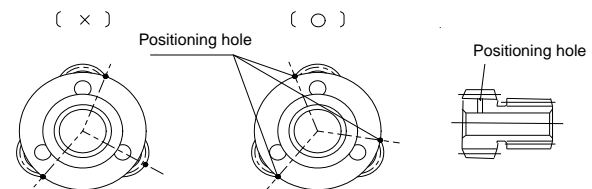

Figure 6
4. Inspect the positioning hole on gears (See figure 6.)